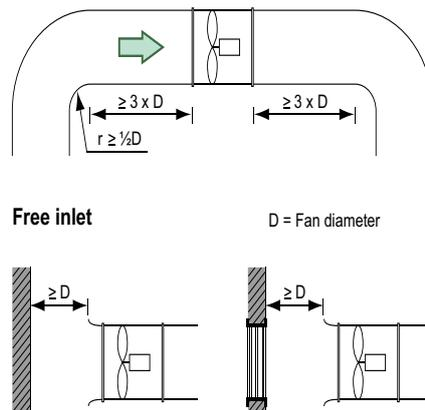

Figure 6. Optimal installation space
Keep duct installations without bends before and after the fans for at least three fan diameter (D) lengths. See figure 6. When the fan is in position and secured, make sure the rotor rotates freely.